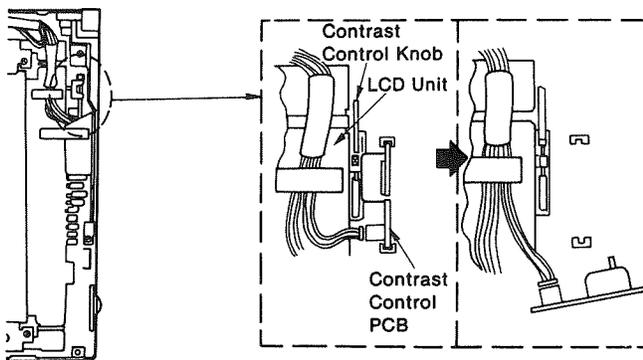

**Figure 32A**
- a) Peel off the tape near the contrast control PCB as shown in Figure 32A.